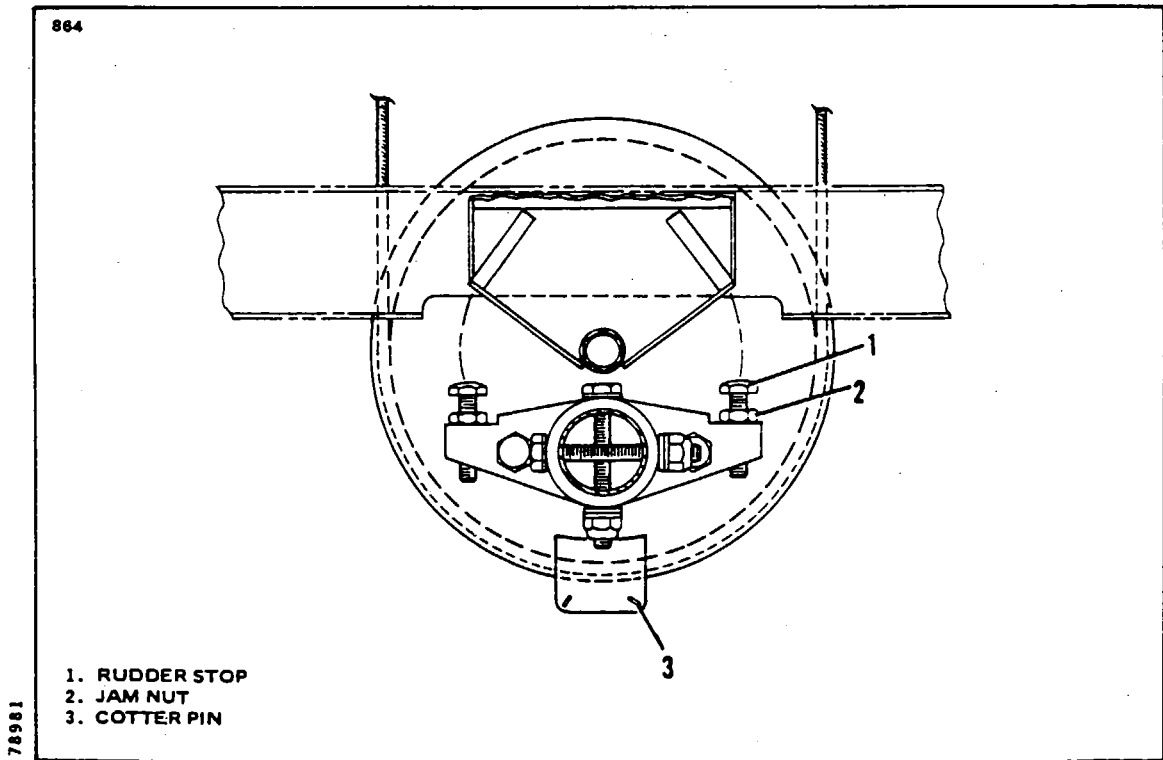

Figure 5-14. Rudder Travel Adjustments
4. Should the rudder travel be incorrect showing a gap between the tool any any part of the control surfaces, the tail cone fairing should be removed and the stops reset to obtain correct rudder travel. (Refer to Figure 5-14.)